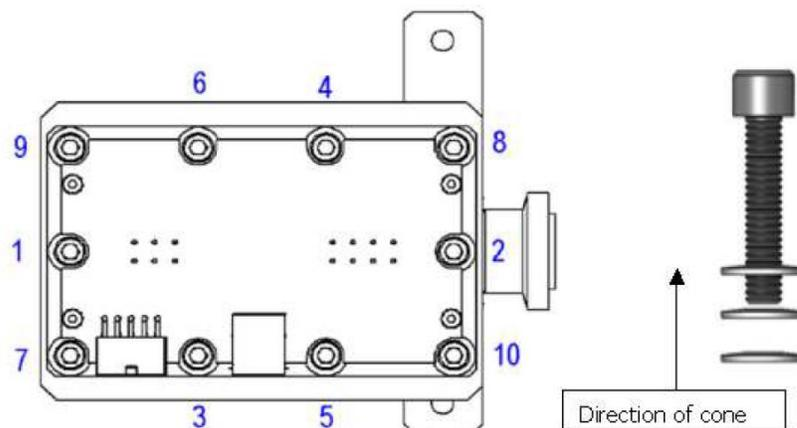

Figure 3-10. Tightening spectrometer header screws
22. Insert a screw with three Belleville washers into each hole and finger tighten (see Figure 3-10).
25. Wait a minimum of five minutes, then torque the screws again in the same pattern (Figure 3-10) to a value of 90 in-lbs (10.2 N-m). This wait period allows the washers to decompress.